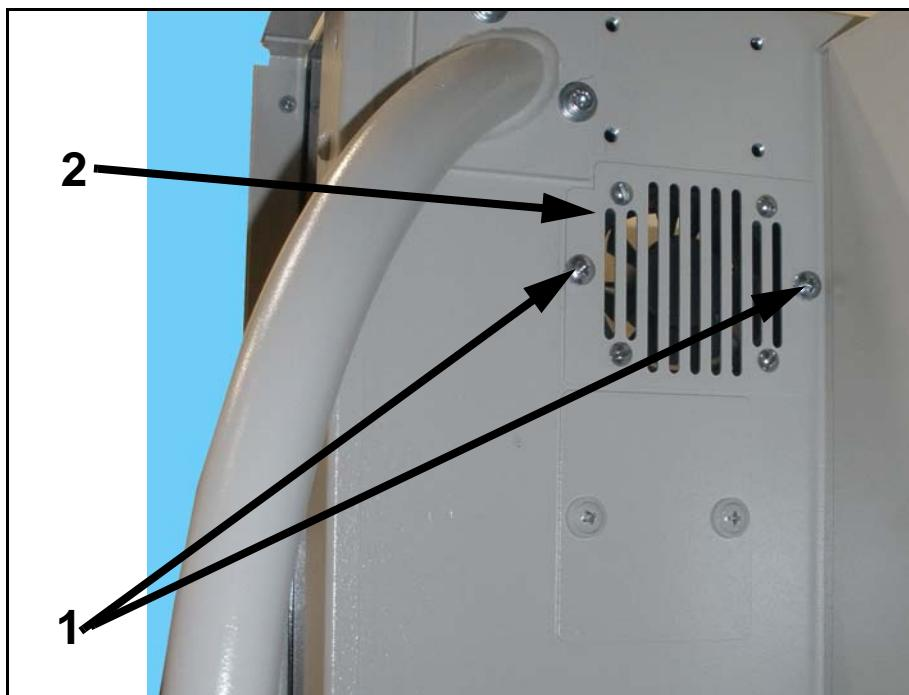

Figure 6-29. Fan Mounting Screws
- 1 Unscrew mounting screws (1 in Figure 6-29).